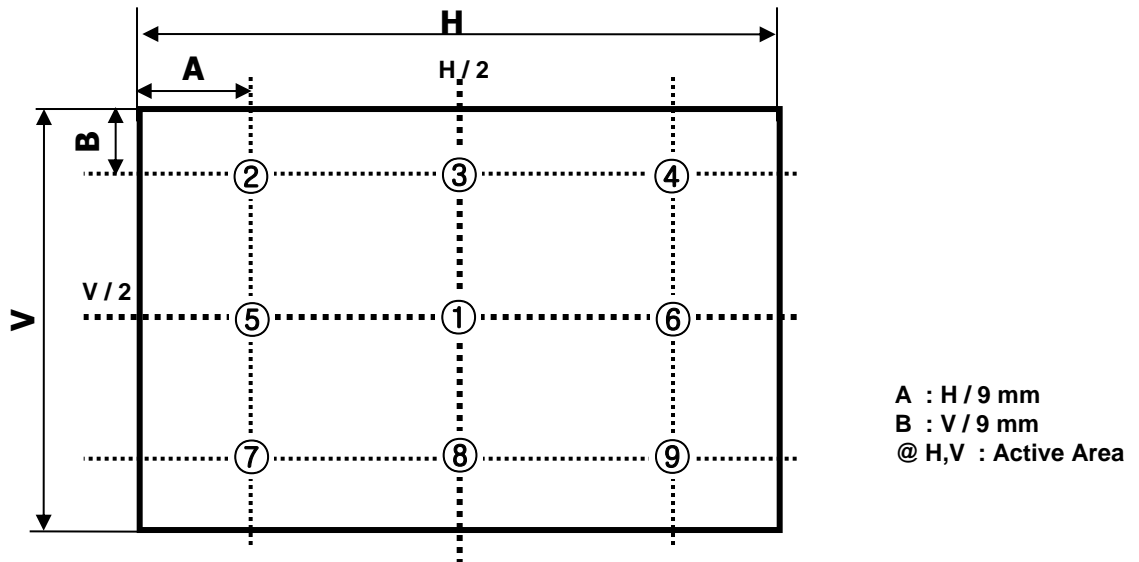

FIG. 2 9 Points for Luminance Measure
2. Optical Characteristics is determined after the unit has been 'ON' and 1 Hour after lighting the backlight in a dark environment at $25 \pm 2^\circ\text{C}$. Surface luminance is the luminance value at center 1-point across the LCD surface 50cm from the surface with all pixels displaying white. For more information see the FIG. 2